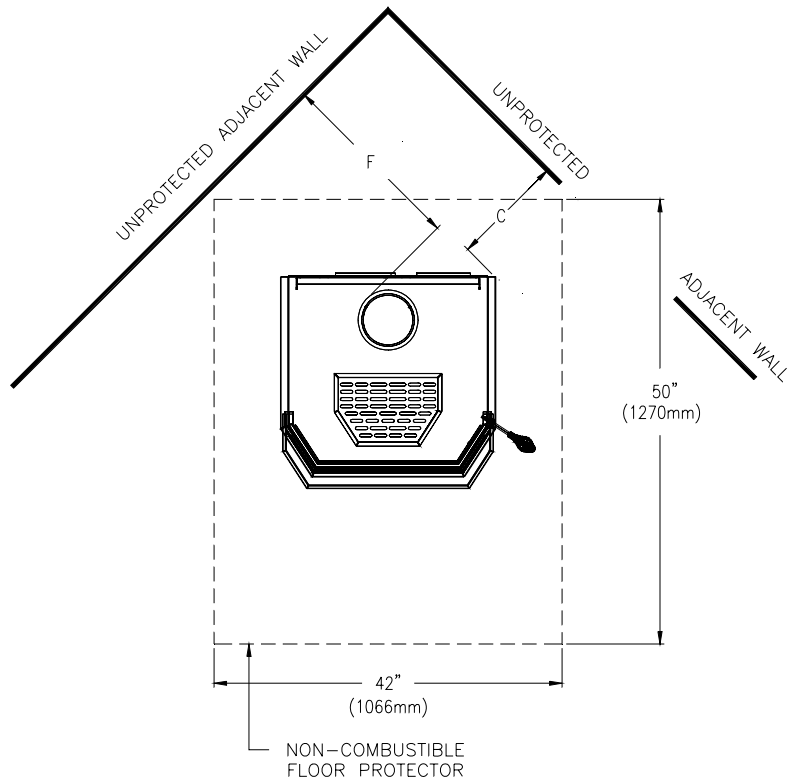

Figure 1.1 Clearances to Combustibles
Clearances to any combustibles when measured directly out from the front and up from the top of The stove must be a minimum of 48" (1219 mm). The stove must also be placed so as to maintain the minimum clearances to combustible walls specified for the connector used. (See Table 1.1 and Figure 1.1).
1. Mark the location for the floor protection[†] (if required) as noted in Figure 1.1.
If the stove is to be installed on top of a combustible floor it must be guarded by a non-combustible material extending beneath the heater and to the front and sides as indicated in Figure 1.1, or to the nearest permitted combustible material. Floor protection must extend beneath, and 2” (51 mm) to the sides of a horizontal connector if one has been used.